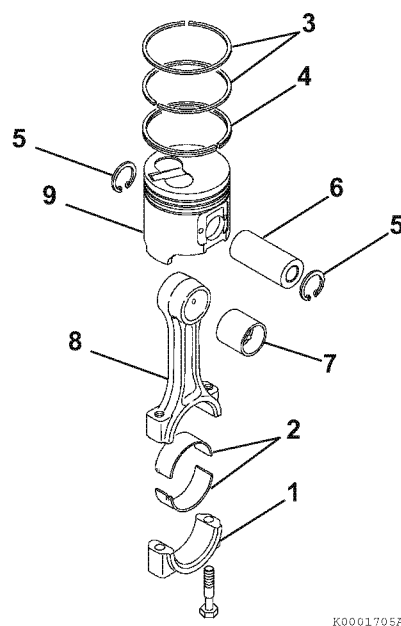

Figure 6-88
5. Lubricate and install the wrist pin (6, **Figure 6-88**) through the piston and connecting rod.
6. Reinstall the second circlip (5, **Figure 6-88**) and ensure it is securely seated in the groove.